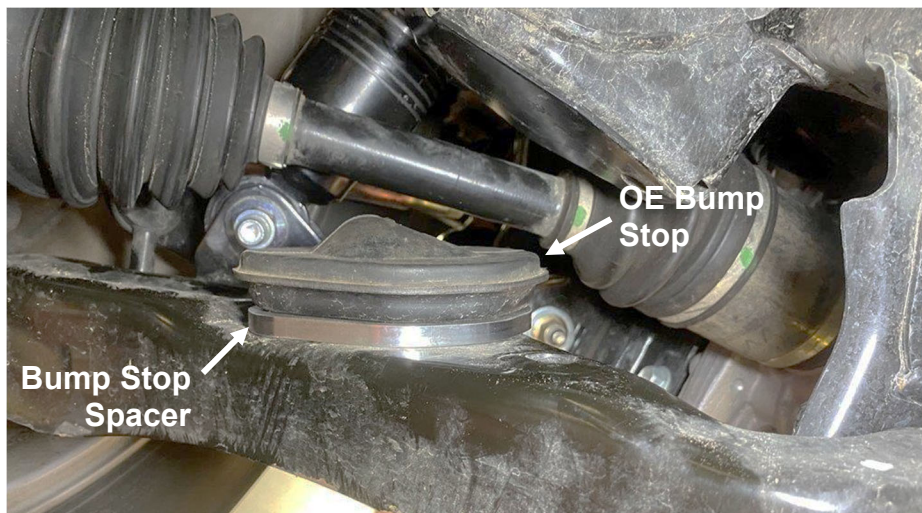

Figure 2: Bump Stop with Installed Spacer
- F. Place the Bilstein bump stop spacer on the lower control arm in the same position as the bump stop. Ensure the bump on the control arm fits into the dimple on the spacer as to prevent rotation. Place the bump stop on top of the spacer again ensuring the spacer bump fits into the corresponding bump stop dimple (see Figure 2).